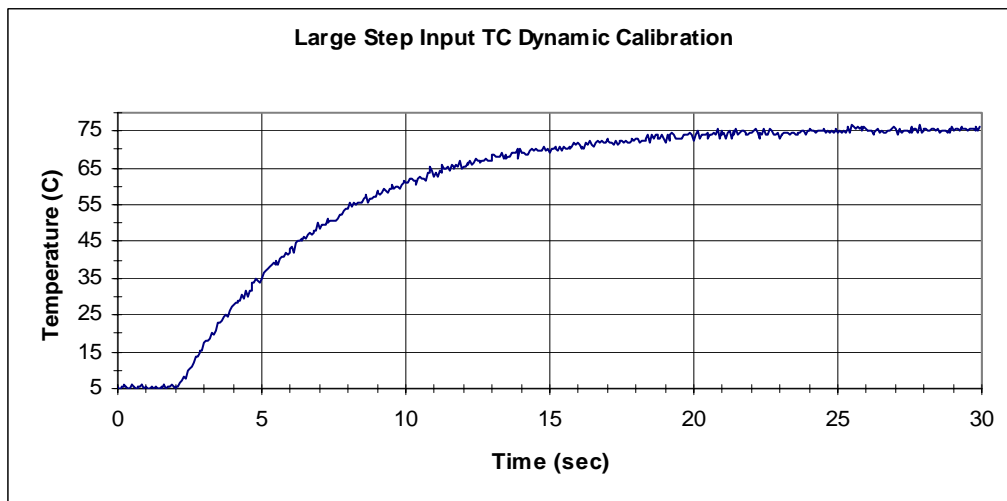

Figure 14. A dynamic recording of a thermocouple subjected to a step input change in temperature.
49) From the thermocouple output plotted in Figure 14 find the time constant, τ , in seconds.
50) The magnitude of the step input applied to the thermocouple plotted in Figure 14 is: